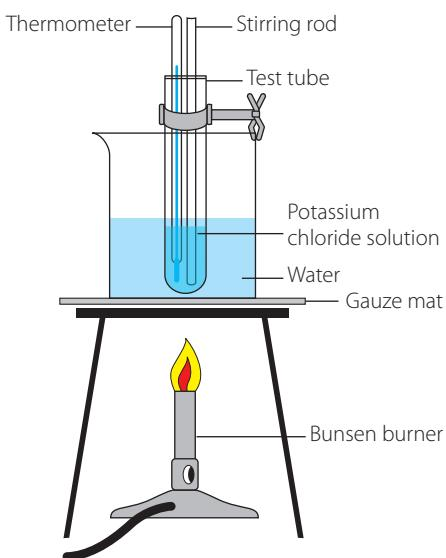

FIGURE 4.10 Experimental set-up for determination of a solubility curve
- 4 Half-fill the beaker with tap water, clamp the test tube securely into the beaker so that it is immersed in the water (Figure 4.10).